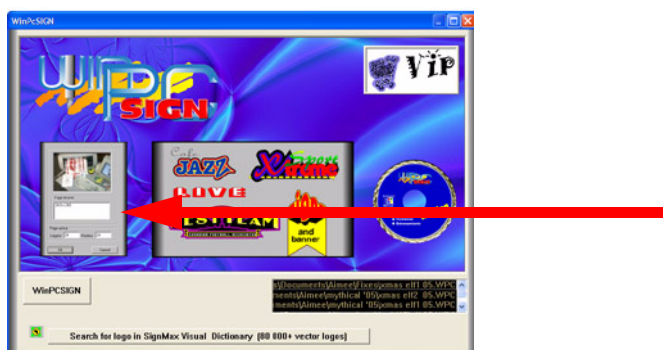

Figure 52
- 2 Click the **Create New Document** image. See figure 52.